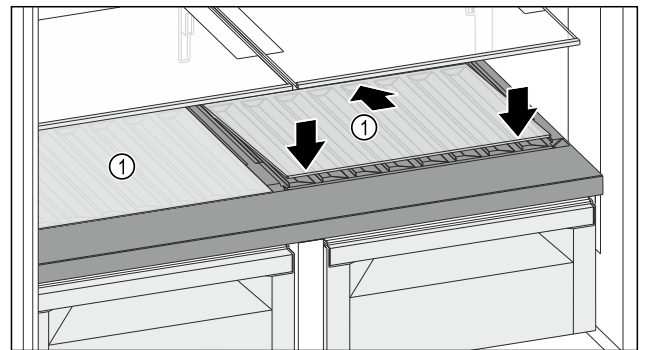

Fig. 122
- Place the glass shelf Fig. 122 (1) at an angle, tilted back and down.
- Lower the glass shelf Fig. 122 (1) at the front.